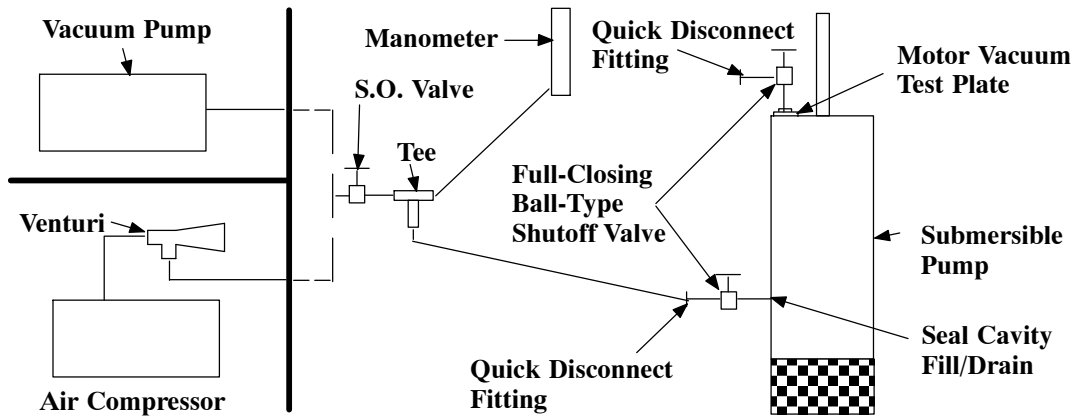

Figure C-8. Vacuum Test System
It is recommended that a vacuum pump be used to draw the vacuum on the cavities. If a vacuum pump is not available, a compressor/venturi system may be used, see Figure C-8.
See Figure C-8 and connect the vacuum pump or compressor/venturi system directly to the pump at the hole for the seal cavity drain plug (48).
Connect the vacuum pump or compressor/venturi system to the pump as shown in Figure C-8.
Figure C-8 shows a simple schematic for setting up either a vacuum pump or a venturi/compressor test system.